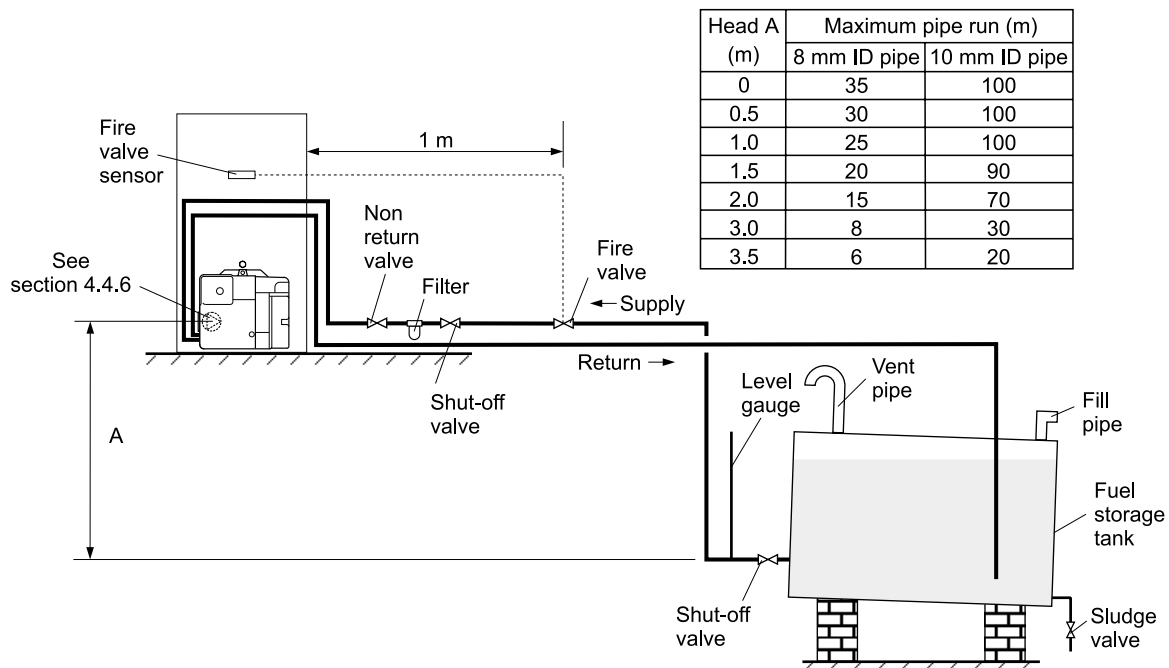

Fig. 3 - Two pipe system
4.4.4 Two pipe system - (See Fig. 3)
- 1 When the storage tank outlet is below the burner, the two pipe system should be used. The pipe runs should be as shown in Fig. 3. The return pipe should be at the same level in the tank as the supply pipe, both being 75 to 100 mm above the base of the tank. The pipe ends should be a sufficient distance apart so as to prevent any sediment disturbed by the return entering the supply pipe.
- 4 To be used with a two-pipe system, the burner **must** be fitted with an additional flexible fuel line (a flexible fuel line and $\frac{3}{8}$ " to $\frac{1}{4}$ " BSP male adaptor are available from Grant Engineering (UK) Limited). See Section 4.4.6.